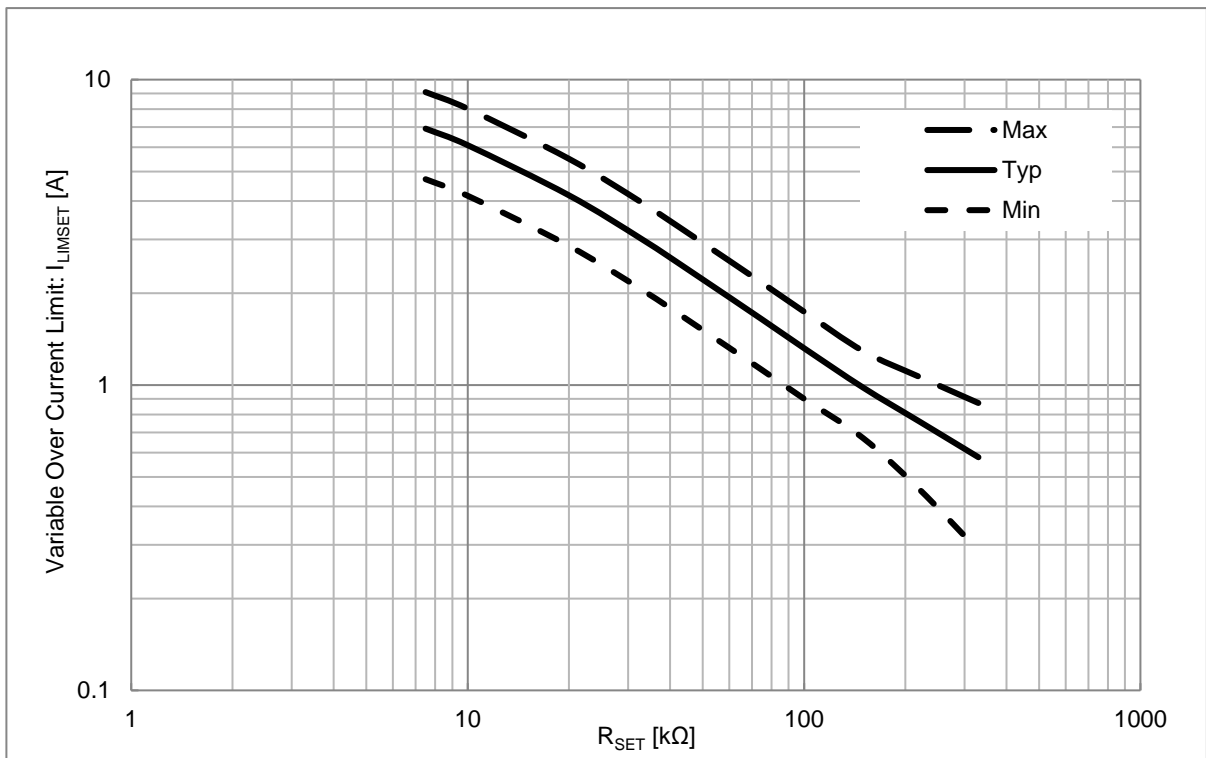
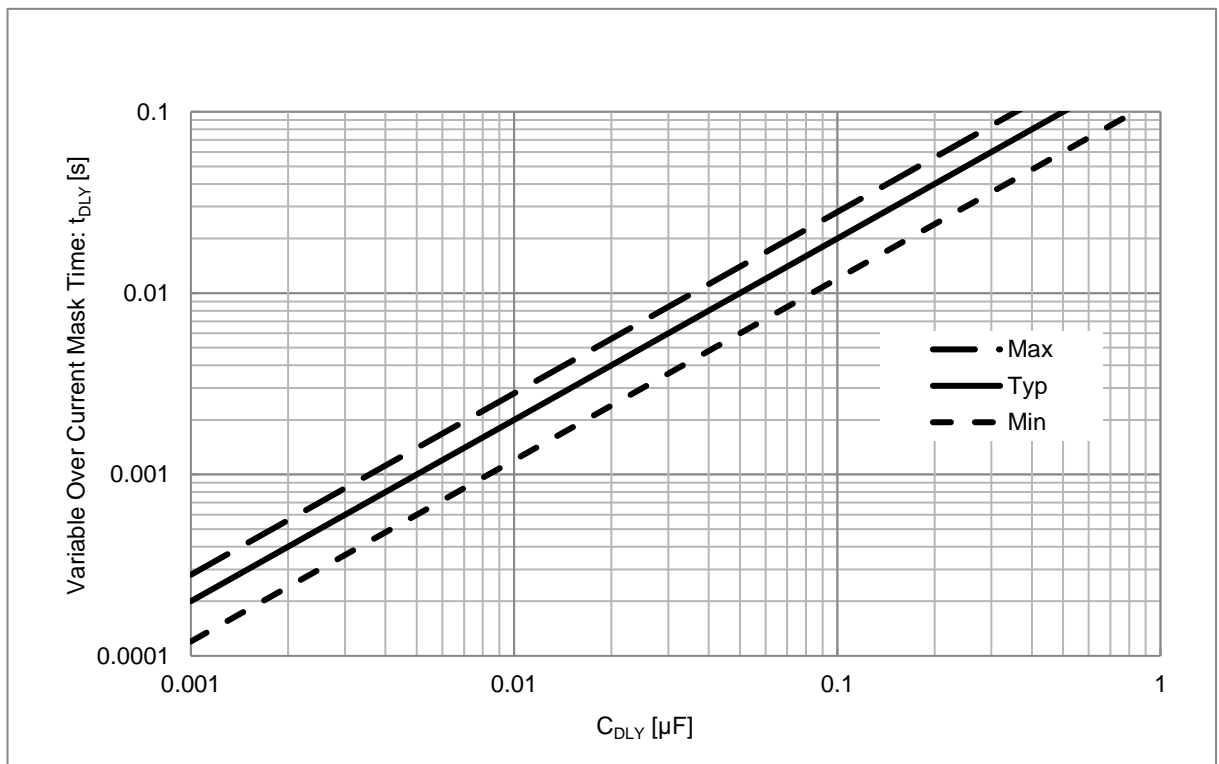

Figure 36. Variable Over Current Limit vs R_{SET}
Figure 37. Variable Over Current Mask Time vs C_{DLY}
- (Note 3) GND voltage of IC rises when you use R_{GND} and D_{GND}. When GND voltage of IC rises, the voltage of the SET pin and the DLY pin of the variable overcurrent setting rises, too. Please use it in consideration of rise in GND voltage. It is available with a characteristic as it is showed in Figure 36 and Figure 37 when you connect R_{SET} and C_{DLY} to GND of IC.